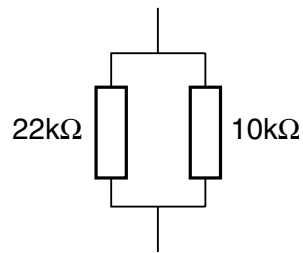

Fig. 6
6 Fig. 6 shows two resistors in parallel.
- (a) Calculate the total resistance of the arrangement shown in Fig. 6. [3]